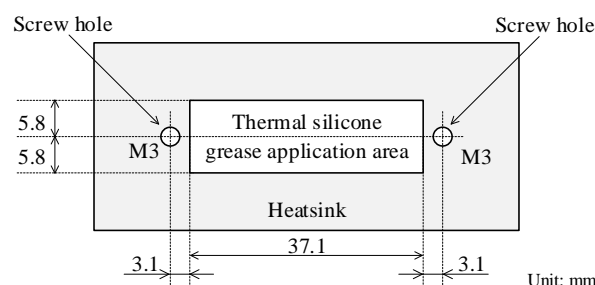

Figure 13-2. Reference Application Area for Thermal Silicone Grease
- Apply a silicone grease within the area indicated in Figure 13-2, below.